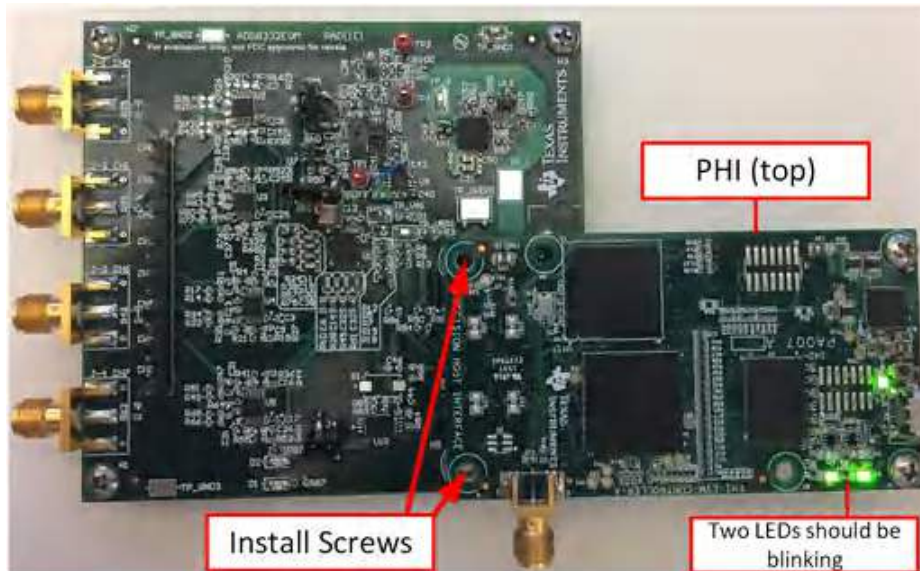

Figure 6-1. ADS8332EVMV2-PDK Hardware Setup and LED Indicators
1. Connect the ADS8332EVMV2 to the PHI. Install the two screws as indicated in Figure 6-1.
- b. LEDs D1 and D2 on the PHI starts blinking to indicate that the PHI is booted up and communicating with the PC. The resulting LED indicators are shown in Figure 6-1.